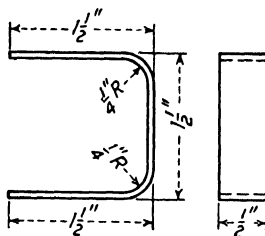

Fig. 256.—0.035 in. thickness, 2 bends of 90° each.
5. Make a full-scale drawing of the flat pattern of the fitting shown in Fig. 256.